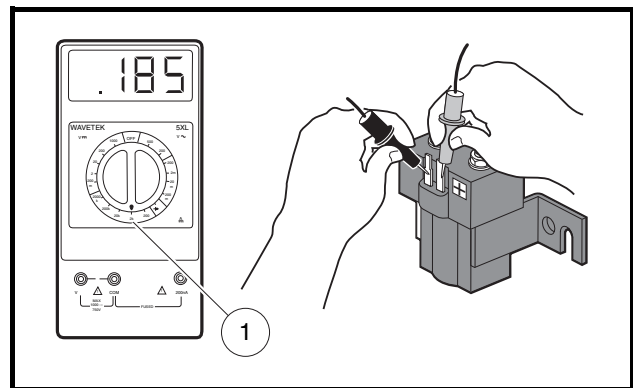

Figure 11-13 Activating Coil Test – Service Replacement Solenoid
- **Service replacement solenoids:** A reading of 180 to 190 ohms should be obtained (**Figure 11-13, Page 11-19**). If not, replace the solenoid.